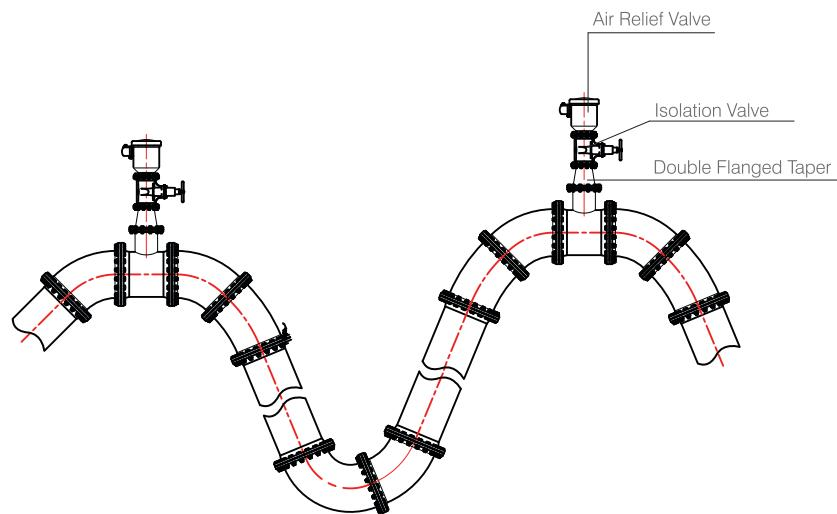

Figure 12: Placing air relief valve to uppermost points of pipeline
- Air relief valves should be installed to uppermost points of pipeline profile (Figure 12)